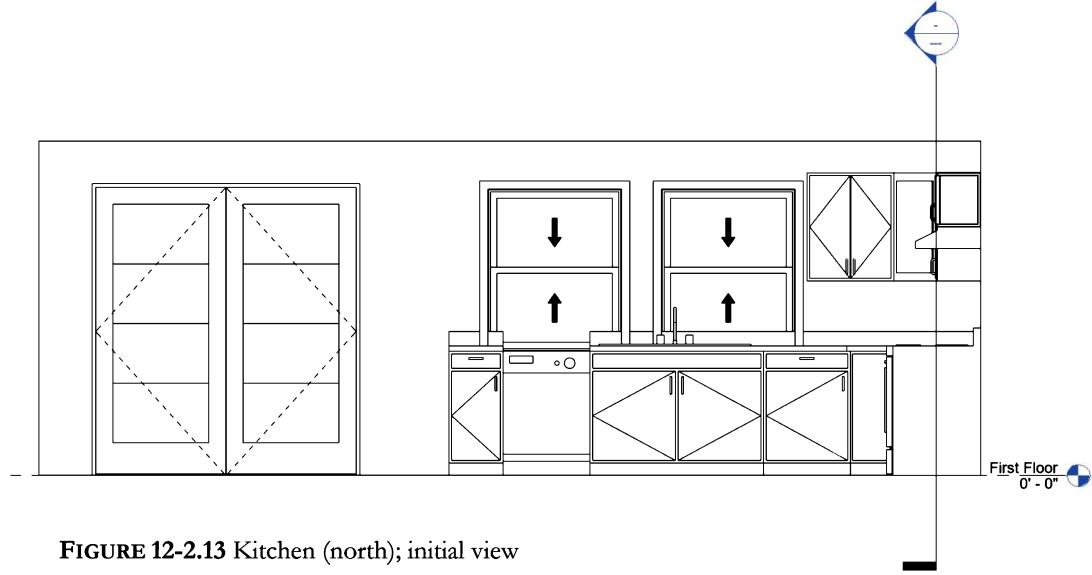

FIGURE 12-2.13 Kitchen (north); initial view
28. Adjust the *crop region* and the perimeter lines per the previous elevation (Figure 12-2.13).